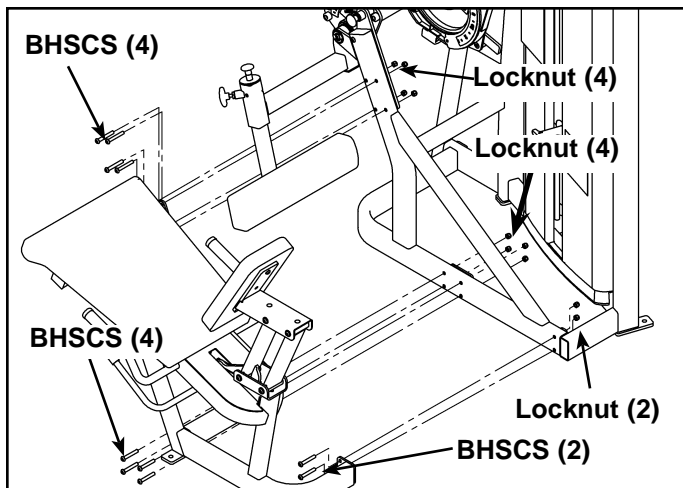

Figure 1
- B. With an assistant, carefully remove the ten Button Head Socket Cap Screws (BHSCS) securing the two halves of the frame. See Figure 1.
- D. With an assistant, carefully attach each half together using the ten BHSCS removed in step 4B. See Figure 1.